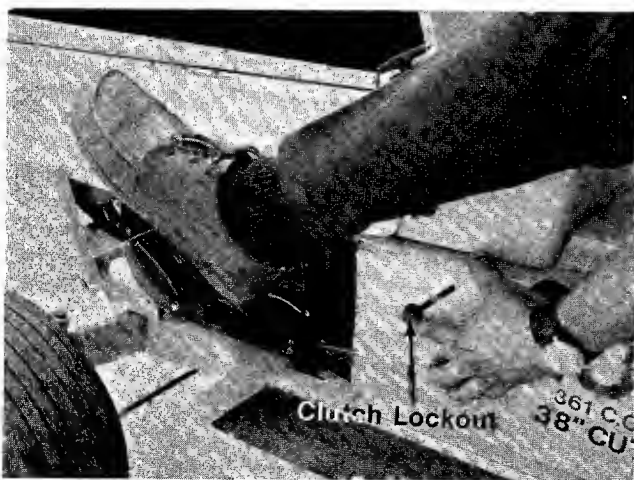

FIGURE 18.
- k. **Clutch Lockout.** When the clutch pedal is depressed all the way, it can be locked by placing the clutch lockout in the "START" position as shown in figure 18. The clutch lockout must be in this position before the engine will start.
2. Place the clutch lockout in the "START" position. See figure 18.